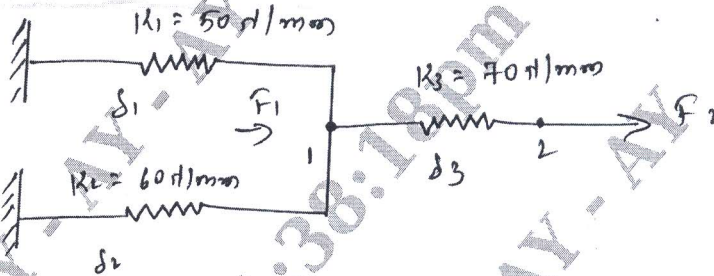

Fig. Q2 (a)
- 2 a. For the spring system shown in Fig. Q2 (a), using the principle of minimum potential energy. Determine the nodal displacements. Take :  $F_1 = 75 \text{ N}$  and  $F_2 = 100 \text{ N}$  (10 Marks)